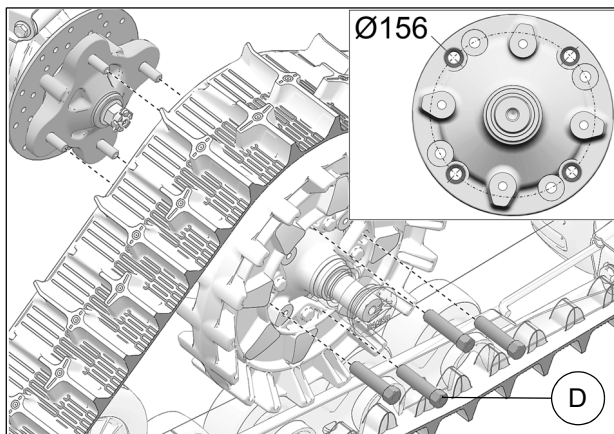

Fig. 11
10. Secure undercarriage to rear hub using the provided M12 lug nuts (D). Use bolt circle $\text{\O}156\text{mm}$. See Fig. 11